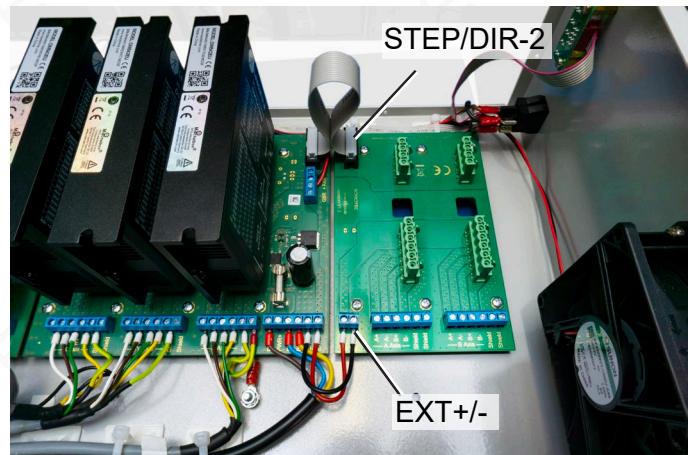

Fig. 1: Fully assembled Extension 542 module
- Mount the extension board in the front part of the housing using the enclosed spacer nuts and screws, as shown in figure 1.